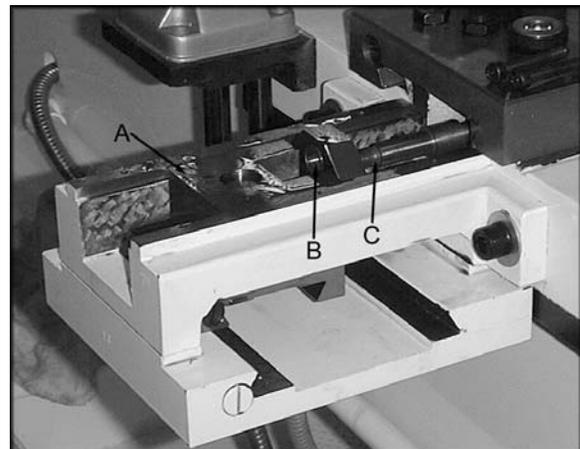

Figure 3
11. Place the cross slide block (A, Figure 3) onto the taper slide rest (22).
12. Position the main body so that the hole in the cross slide block (B, Figure 3) lines up with the cross slide screw (C, Figure 3).